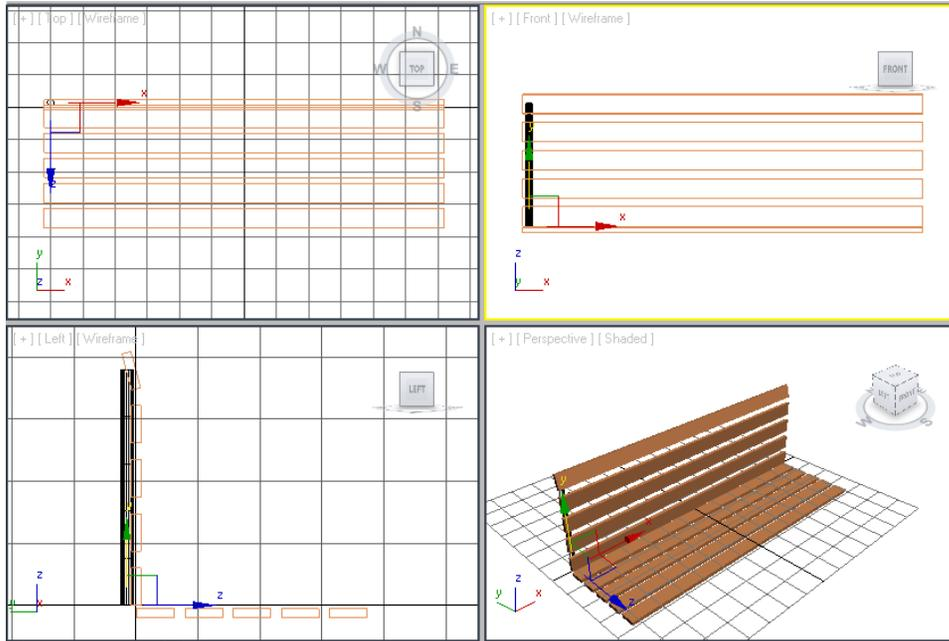

Figure 2-65 The vertical back support001 geometry in viewports
3. Now, choose the **Create** button in the **Keyboard Entry** rollout; a cylinder is created in all viewports, as shown in Figure 2-65.